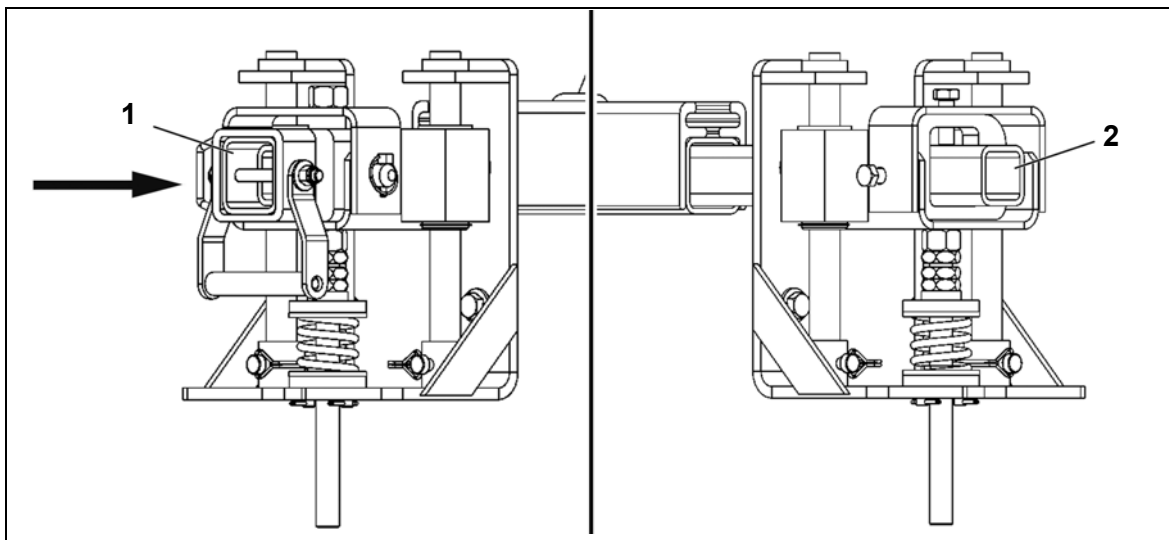

Fig. 14
1. Insert the mainframe with the installed cartridge (1, Fig. 14) into the mounting bracket from the operator side.
2. Slide the mainframe through the installation openings in the mounting bracket on the far side (2, Fig. 14).